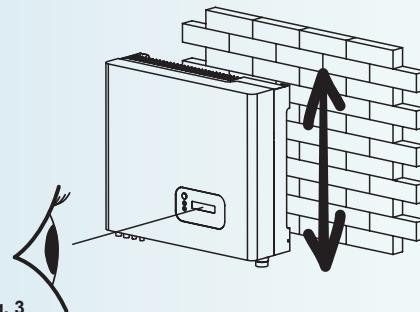

Fig. 3
- Choose a location that makes it possible to easily read the LCD (**Fig. 3**).